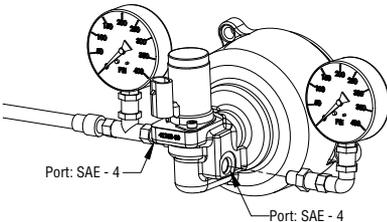

Figure 2 - Pressure Port Connection
- c) Remove the pressure switch from the FR66 end cover and place a second 400 PSI pressure gauge in the pressure switch port as shown in figure 2 below.